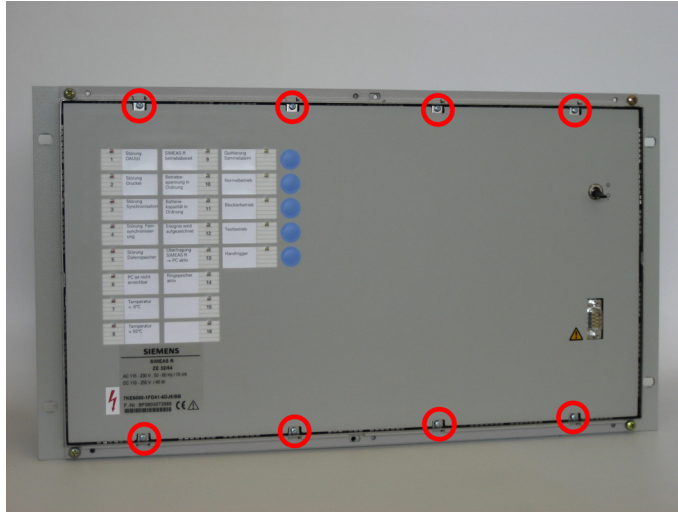

Figure 1-11 Removing the front plate
- Remove the screws on the top edge of the front plate. Loosen the screws on the lower edge only until the front plate can be easily removed (see Figure 1-11).